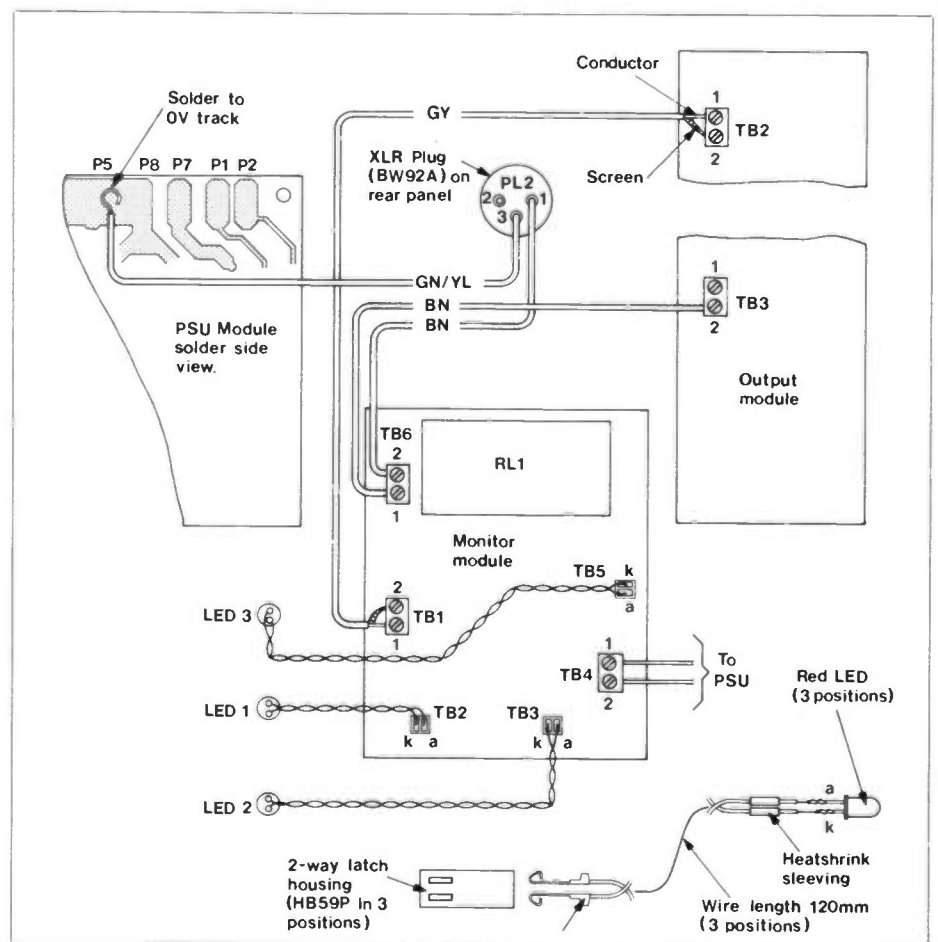

Figure 12. Wiring the LEDs.
The three LEDs associated with the Monitor module are wired to 'minicon' terminals, see Figure 12, and glued into the front panel as shown in Figure 3. Cut three 120mm lengths each of the red and black hook up wire, prepare the ends and solder a red wire to each of the three LED anode leads (longest lead of the two). Solder a black wire to each of the LED cathode (K) leads and fit a suitable length of sleeving over each of the six leads and joints as shown. Carefully solder a minicon terminal onto the remaining end of each lead and insert the terminal pairs into a 2 way latch housing, noting the polarity of each wire. LED3 to TB5 wires are reversed to those of TB2 and TB3!